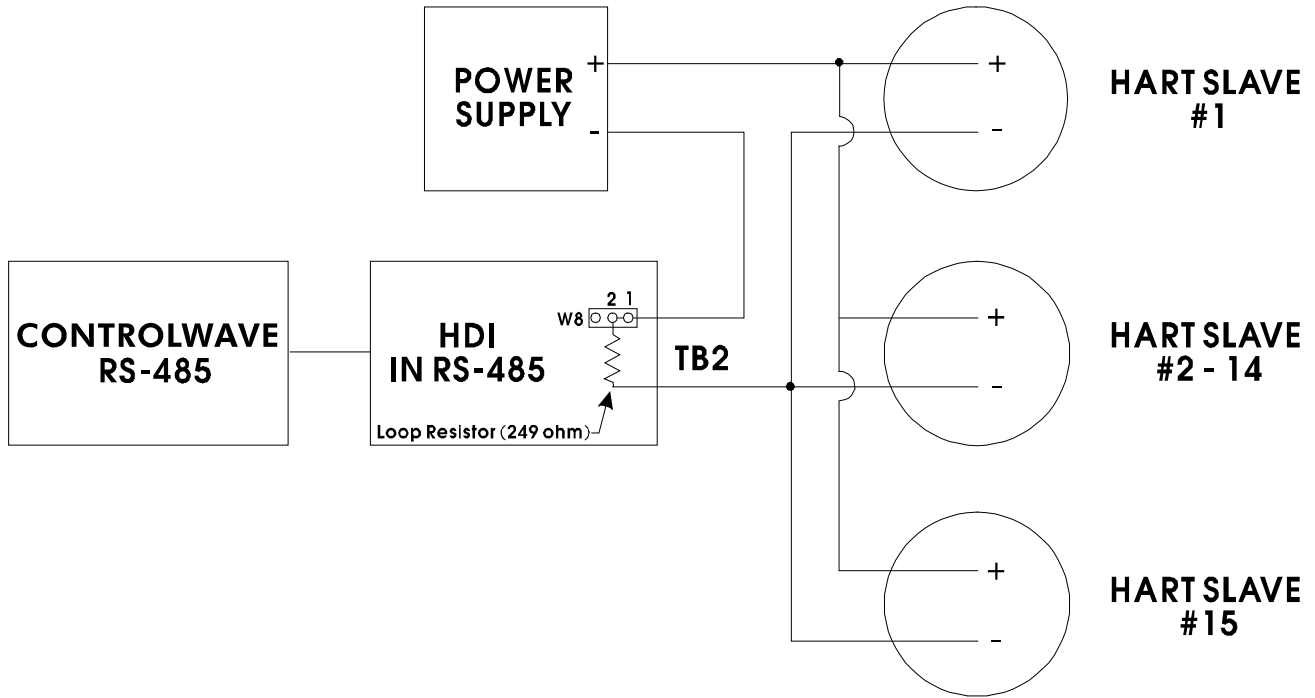
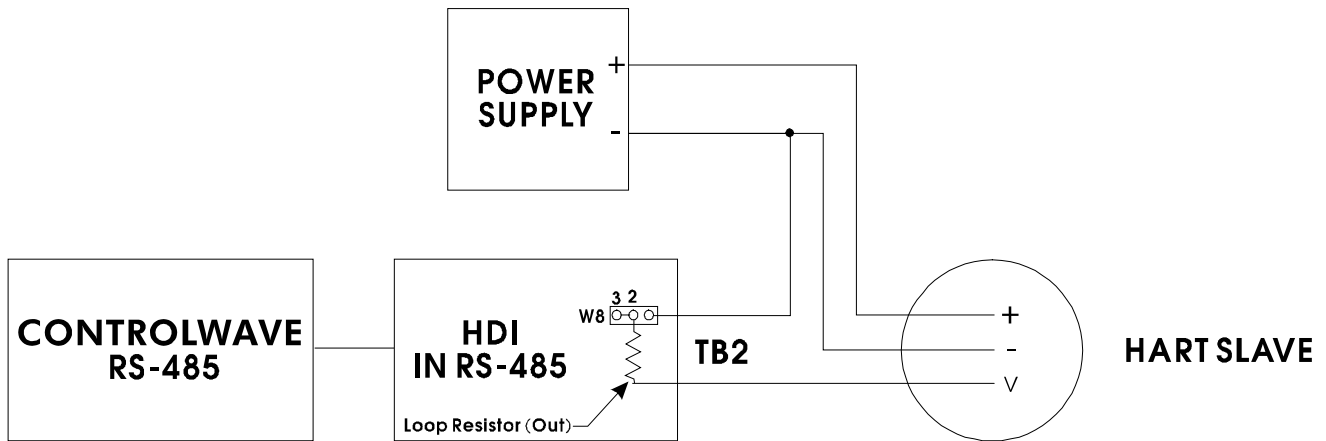

Figure 6. HART Remote Transmitters with 4-20 mA Current Source Connected to ControlWave Using an HDI in RS-485 Mode
Figure 7. HART Remote Transmitters with +12 to +45 VDC Voltage Source Connected to ControlWave Using an HDI in RS-485 Mode
2. Connect the HDI to the HART remote devices either as shown in *Figure 6* (for-to-20mA current sourced transmitters) or to a single HART remote device (for a +12 to +45 VDC voltage sourced transmitter) as shown in *Figure 7*.
2. Connect each HDI to the HART remote devices as shown in Figure 6 (for 4-20mA current sourced transmitters) or to a single HART slave device as shown in Figure 7 (for a +12 to +45 VDC voltage output transmitter).